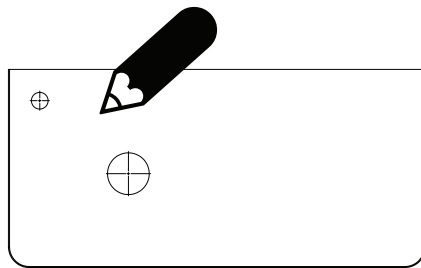

Fig. 1
3. Mark the central position of the basin and brassware on the countertop with a sharp, soft pencil as per **Fig. 1**.